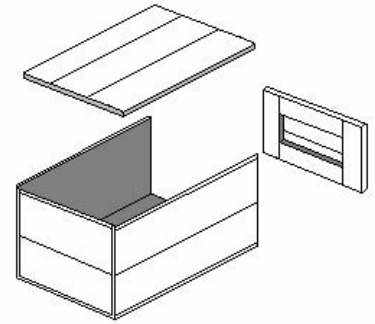

Figure 1: Style 2 Nailed Wooden test box
- i. A substantial wood box (**corrugated containers will not be accepted**) filled with sand or equivalent to a gross weight of 100 lb (45 kg). In order to maintain uniform data, it is required that this test box be a Style 2 Nailed Wooden Box (end cleats INSIDE), measuring approximately 24" x 18" x 10", OD (Fig. 1). It is recommended that it be retained and kept continuously available for periodic equipment calibration.
- iv. Metal shim $\frac{1}{16}$ inch thick, approximately two (2) inches wide.